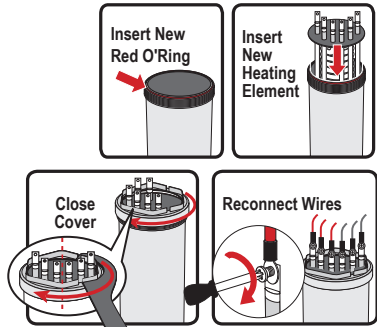

Figure 12 - Installing an Element
- Install new element with new red O-Ring, making sure the O-Ring and element are positioned correctly. Tighten the retaining cap and wire connections. See Figure 12.